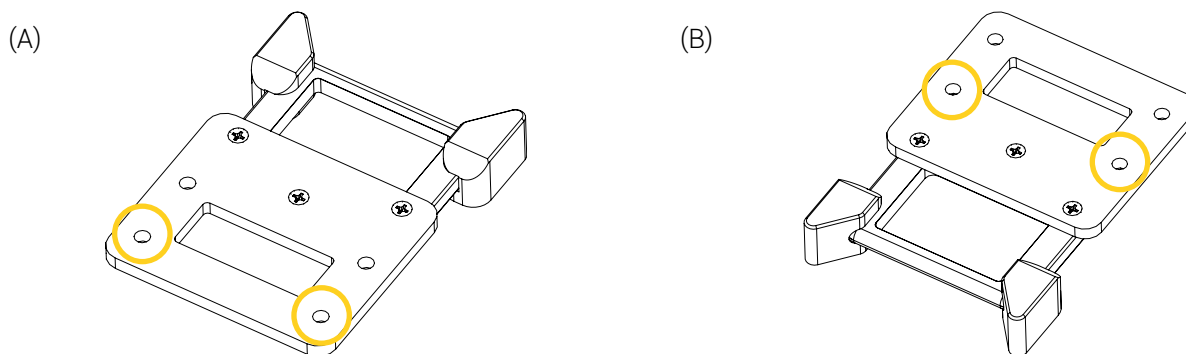
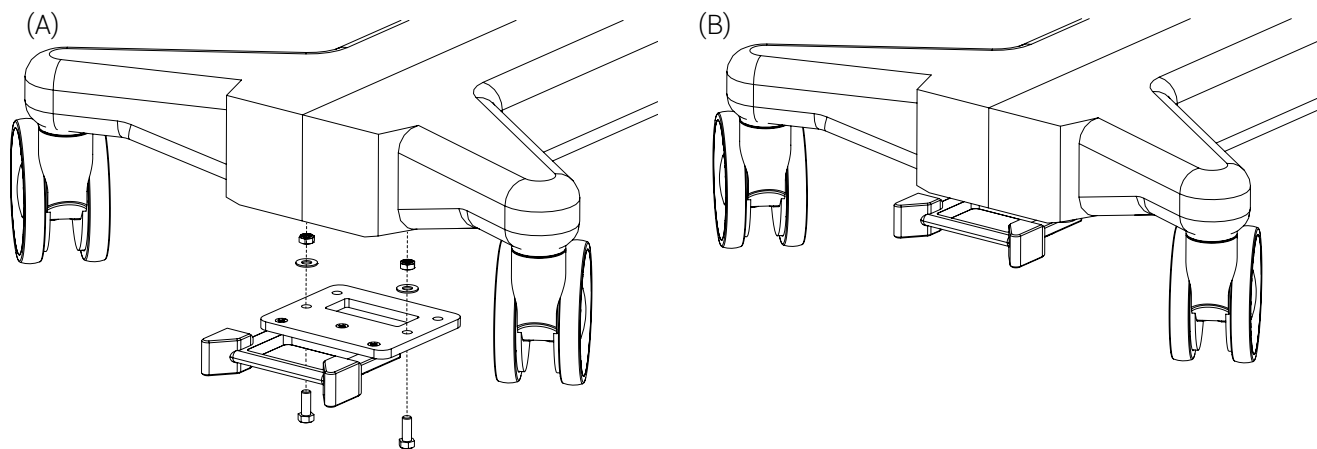
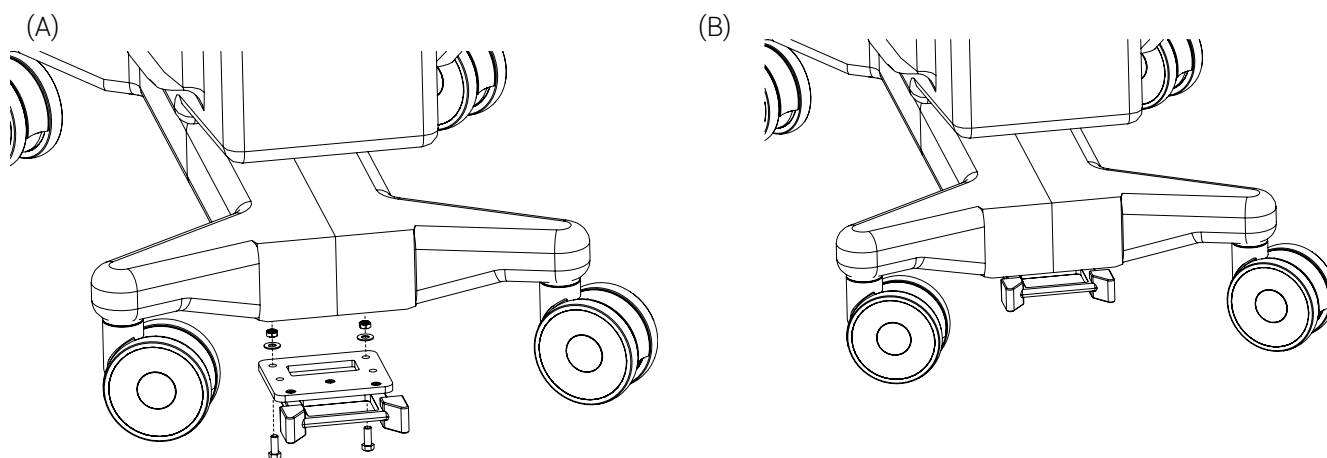

Figure 9: THS coupling device screw holes
Figure 10: THS coupling device installed at patient foot end of the incubator
Figure 11: THS coupling device installed at patient head end of the incubator
NOTE : The THS coupling device can be installed under the incubator at patient head end (Figure 9 A) and patient foot end (Figure 9 B). The screw holes used for the installation will depend on which end of the incubator the THS coupling device is installed.
1. Ensure to have applied all four (4) brakes on the incubator.
3. Remove the three (3) screws and panel. If required, refer to the incubator operation manual for proper use and recommendations.
4. Align the patient foot end installation screw holes of the THS coupling device with the screw holes under the incubator (Figure 9), then tighten the two (2) flat head hex screws 3/8-16 X 1 in., two (2) washers and two (2) locknuts 3/8-16, using two (2) keys 9/16 in. (Figure 10).
4. Align the patient foot end installation screw holes of the THS coupling device with the screw holes under the incubator (Figure 9), then tighten the two (2) flat head hex screws 3/8-16 X 1 in., two (2) washers and two (2) locknuts 3/8-16, using two (2) keys 9/16 in. (Figure 11).